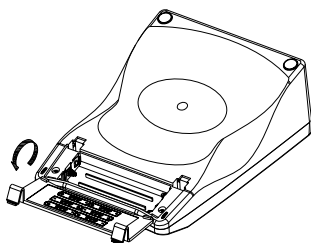

Figure 1: Battery compartment
1. Use two hands to flip the two buckles and battery cover to expose the battery compartment. (Figure 1.)